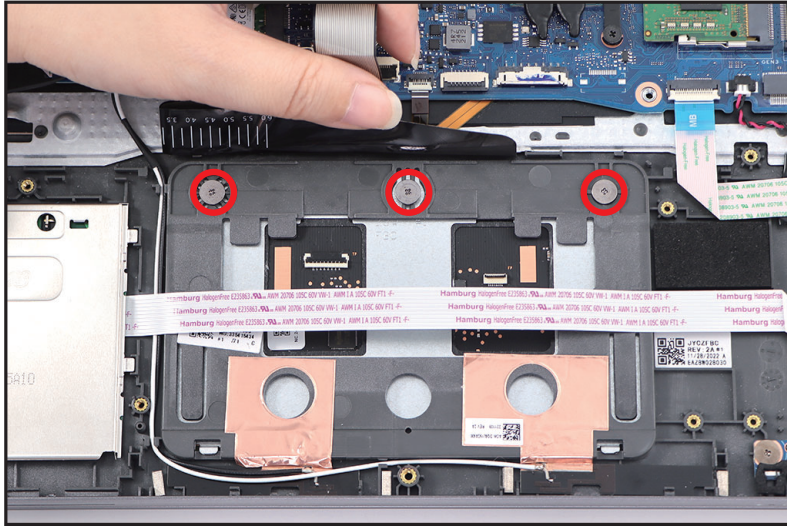

Figure 1-26. Touchpad Module Removal
5. Lift the mylar tab. Remove three (3) screws securing the touchpad module in place (Figure 1-26).